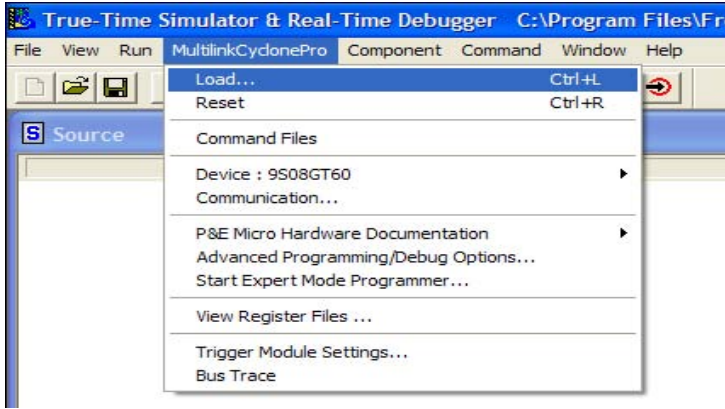

Figure 23. Loading the .abs File
3. As shown in Figure 23, from the menu bar of the HiWave main window choose MultilinkCyclonePro-> Load... (CTRL+L).